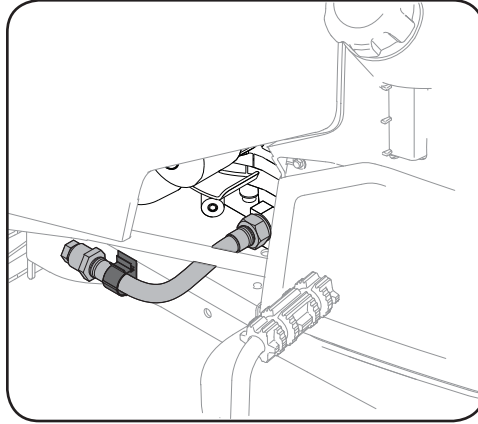

Figure 3-3
- If your tractor is equipped with a drain hose as shown below, the oil drain tube and clip must be removed from the frame before installing the front right support (#6A). See Figure 3-3. The oil drain tube and clip will be fitted onto the front right support bracket when it is installed.